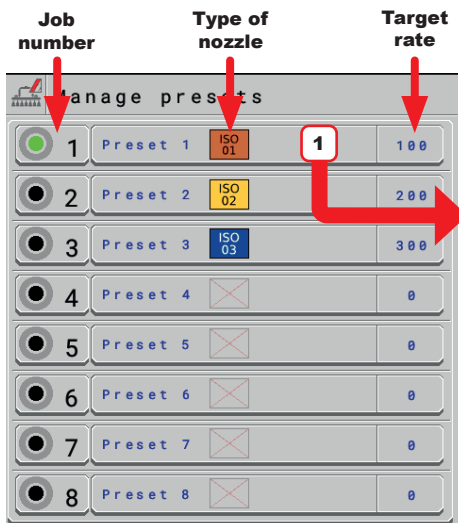

Fig. 80
- Set 8 different spraying configurations: PRESET SETTING, Fig. 80.